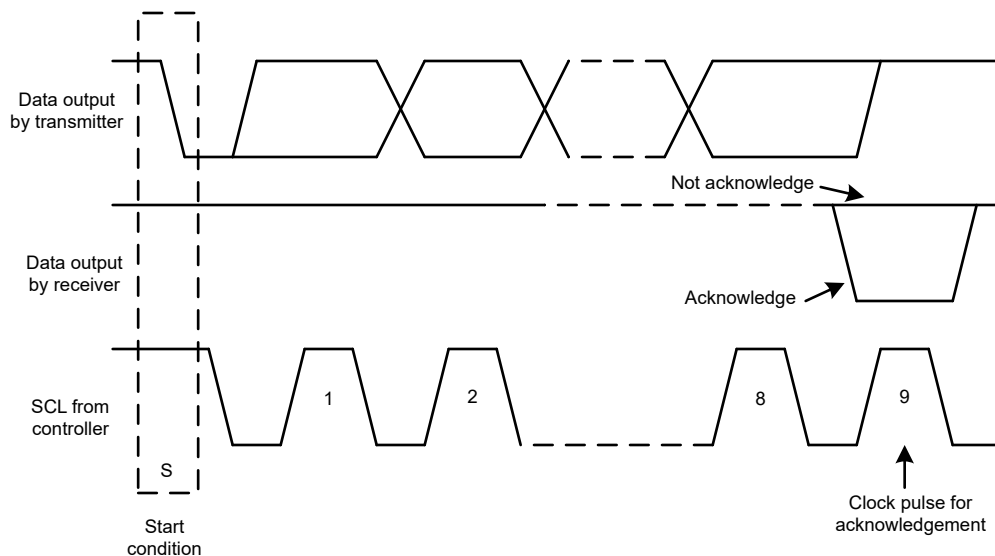
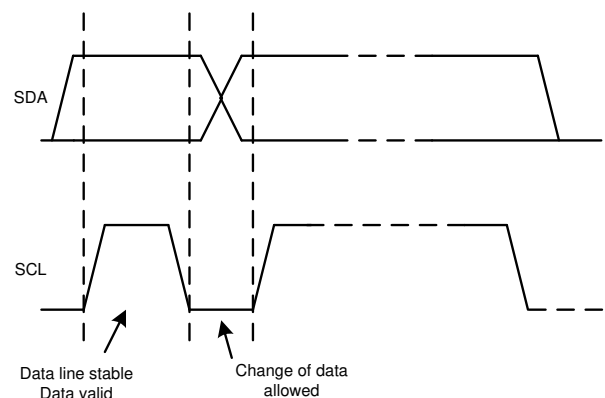

Figure 6-13. Acknowledge and Not Acknowledge on the I²C Bus
Figure 6-15. Bit Transfer on the I²C Bus
Other than specific timing signals, the I²C interface works with serial bytes. At the end of each byte, a ninth clock cycle generates and detects an acknowledge signal. An acknowledge is when the SDA line is pulled low during the high period of the ninth clock cycle. A not-acknowledge is when the SDA line is left high during the high period of the ninth clock cycle, as shown in Figure 6-13.
2. The controller then generates the SCL pulses, and transmits the 7-bit address and the read/write direction bit (R/W) on the SDA line. During all transmissions, the controller makes sure that data are valid. A valid data condition requires the SDA line to be stable during the entire high period of the clock pulse, as shown in Figure 6-15. All devices recognize the address sent by the controller and compare the address to the respective internal fixed address. Only the target device with a matching address generates an acknowledge by pulling the SDA line low during the entire high period of the 9th SCL cycle, as shown in Figure 6-13. When the controller detects this acknowledge, the communication link with a target has been established.